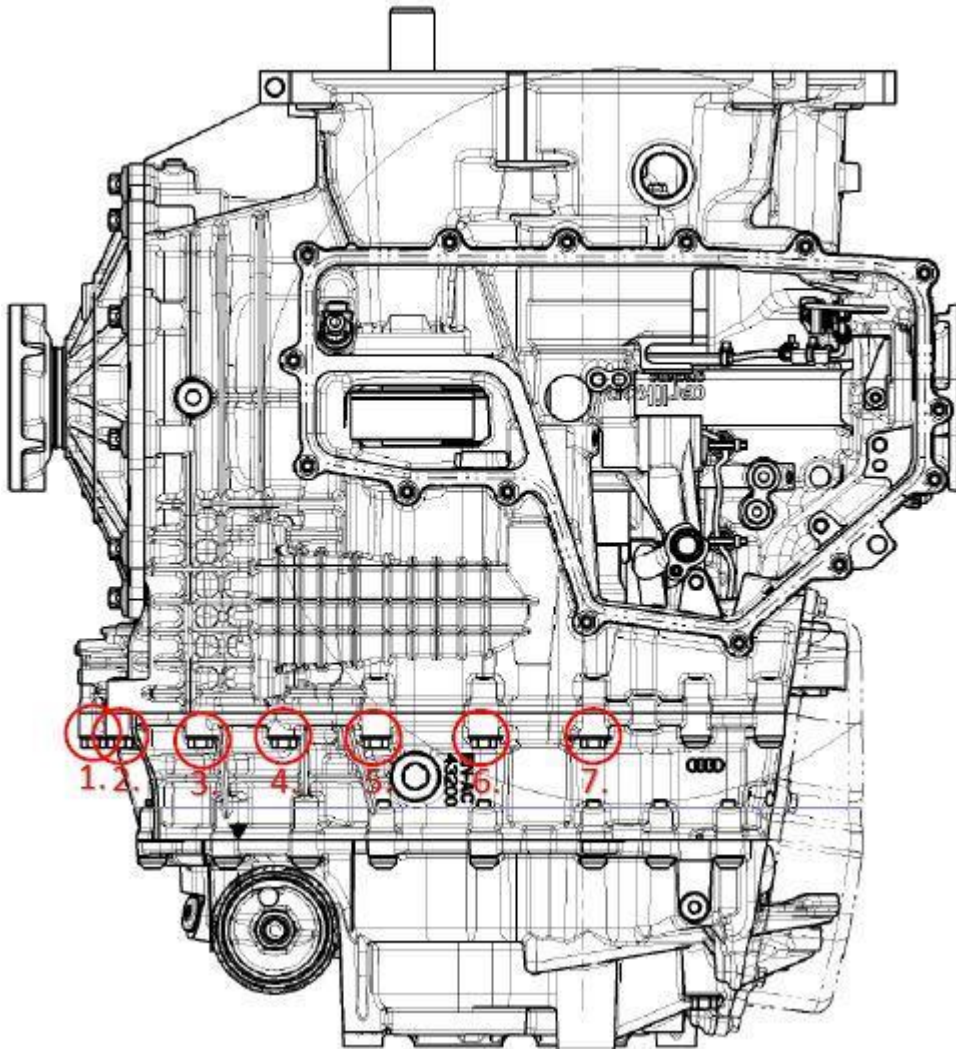

Figure 3. Bolt locations.
7. Check the seven steel bolts (Figure 3) for a torque of 25 Nm. The seven bolts have a hex head with internal polygon socket (triple square). If one or several bolts do not have the specified torque (25 Nm), document which bolts (1 through 7) were not tightened correctly.